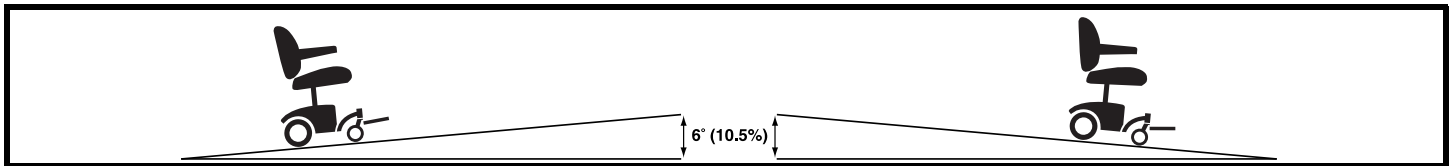

Figure 1. Maximum Safe Slope (Ascending and Descending)
**WARNING!** Even though your power chair is capable of climbing slopes greater than those illustrated in figure 1, do not, under any circumstances, exceed the incline guidelines or any other specifications presented in this manual. Doing so could cause instability in your power chair.
Pride recommends that the maximum slope of an incline you attempt to safely ascend or descend on your power chair does not exceed 6° (10.5%). See figure 1.